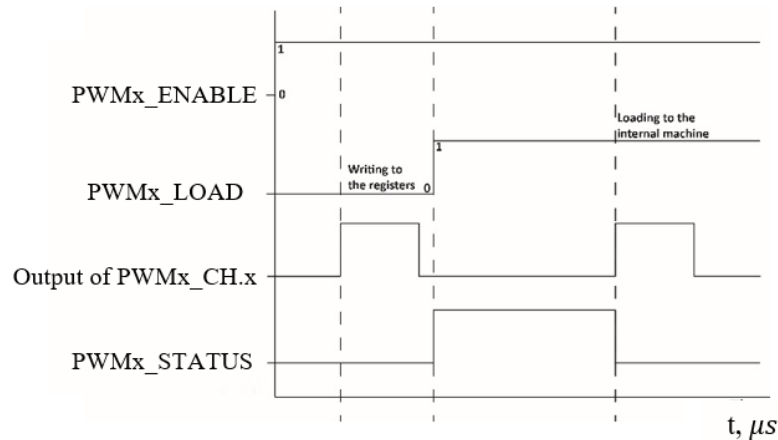

Figure 36 - Time diagram for using PWM_REGS_READY register for loading the data from the parametric registers
- When the new values have been loaded into the inner registers, the STATUS bit will be automatically cleared. (see Figure 36)